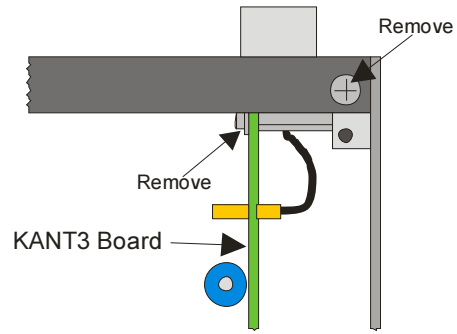

Figure 3
13. Reinstall the 4-40x1/4 Zinc pan head screw and lock washer holding the tuner board to the spacer attached to the right side panel and the black 4-40x3/16 flat head screw that holds the side to the back panel. (See Figure 3).